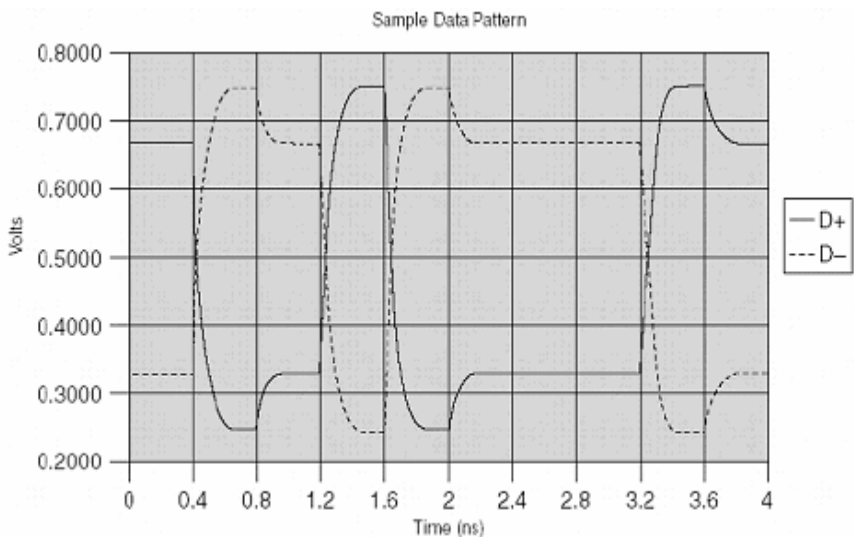

Figure 3: TX De-Emphasis
Before testing we need to clarify the test margins by examining the specifications. The PCIe chipset includes both a transmitter (TX) and a receiver (RX), each with different physical parameters defined by the standard for the current generation. For the TX, the data stream is at 2.5 Gb/s, which corresponds to a Unit Interval (UI) of 400 ps. The data rate may vary by  $\pm 300$  ppm. This does not yet include SSC (Spread Spectrum Clocking), which will add a modulation of -0.5% at a rate of 30 kHz. The TX output provides differential amplitude between 800 mV (min.) and 1.2 V (max.), including de-emphasis. Figure 3 shows this de-emphasis on the single-ended normal and complement signals of the TX output. The first bit after a bit change is called the transition bit, which has a boosted power level. This boost compensates for losses in the transmitting medium, to raise the transmission efficiency. If a bit stays constant for more than 1 UI, this is called a de-emphasized bit. The amplitude of the de-emphasized bit may decrease by -3.5 dB nominal, which is called the de-emphasized output voltage. So when we check the PCIe TX eye quality, we must make sure to check both the transitional and the de-emphasized eye. Over time, the eye opening should reach a minimum value of 0.7 UI. In other words, a jitter of up to 0.3 UI is acceptable. The other part of the physical PCIe system is the RX. Again, the